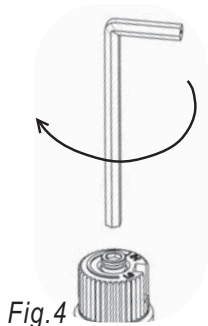

Fig. 4
- 15) Using the Allen wrench as shown in Fig.4, rotate the screw clockwise until snug, do not overtighten.